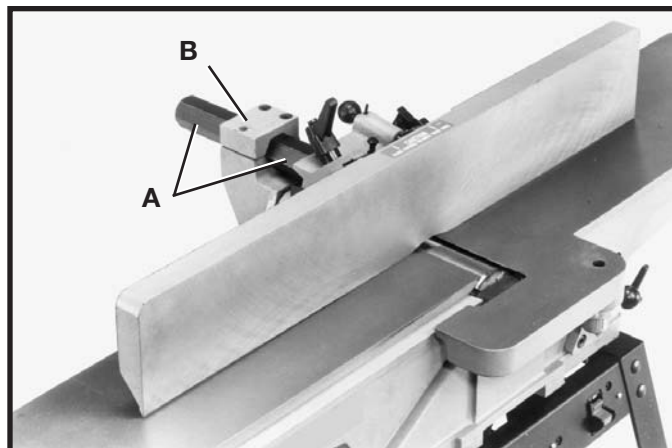

Fig. 20
1. Insert hexagon rod (A) Fig. 20, of fence assembly into bracket (B) on jointer as shown.